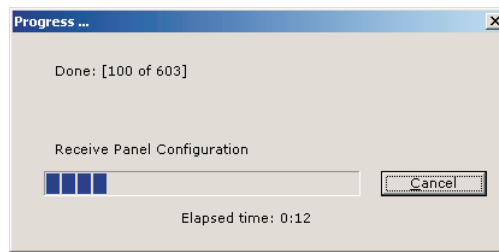
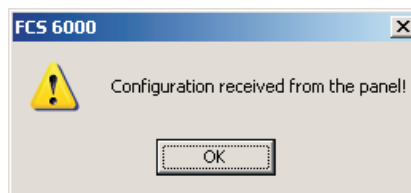

Figure 4-13. Receive Configuration Progress
Figure 4-14. Receive Configuration Complete
3. Select <OK>. In response, the progression of the configuration download from the control unit is displayed (Figure 4-13). After the download is completed, a notification (Figure 4-14) is displayed.
2. Select **<OK>**. In response, the progression of the configuration download (Figure 4-13) is displayed. After the download has finished, a notification (Figure 4-14) is displayed.